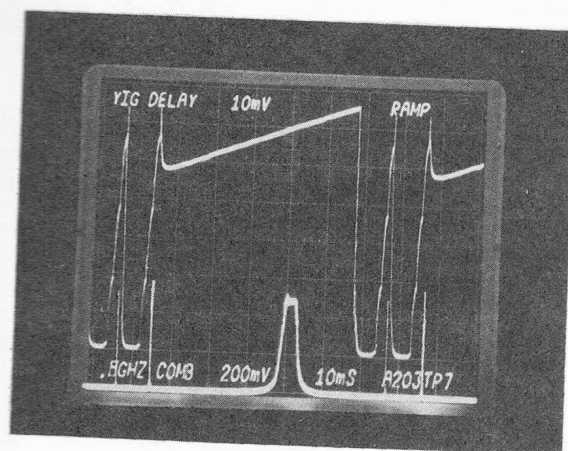

FIGURE 6-6
(1) With connections as in paragraph 6.7e, set input frequency to 1 GHz at -15 dBm, and oscilloscope time base control to 10 ms/div., unexpanded.
(2) Adjust YIG Delay Correction A202R4 so display appears approximately as shown in Figure 6-6.
(3) Set time base to variable (approx. 5 ms/div) and externally trigger oscilloscope from A203P1 pin 12 (DAC 2 ENABLE). Adjust oscilloscope time base so DAC 2 ramp occupies the full screen.